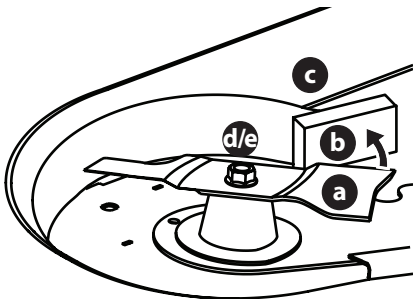

Figure 22
3. Wrap a rag around one end of the blade (a) and grasp it to prevent it from turning, or secure the blade (a) by placing a block of wood (b) between the blade (a) and the deck housing (c) (Figure 22).
4. Remove the flange lock nut (d) and flat washer (e) at the blade (a) and remove the blade (Figure 22).